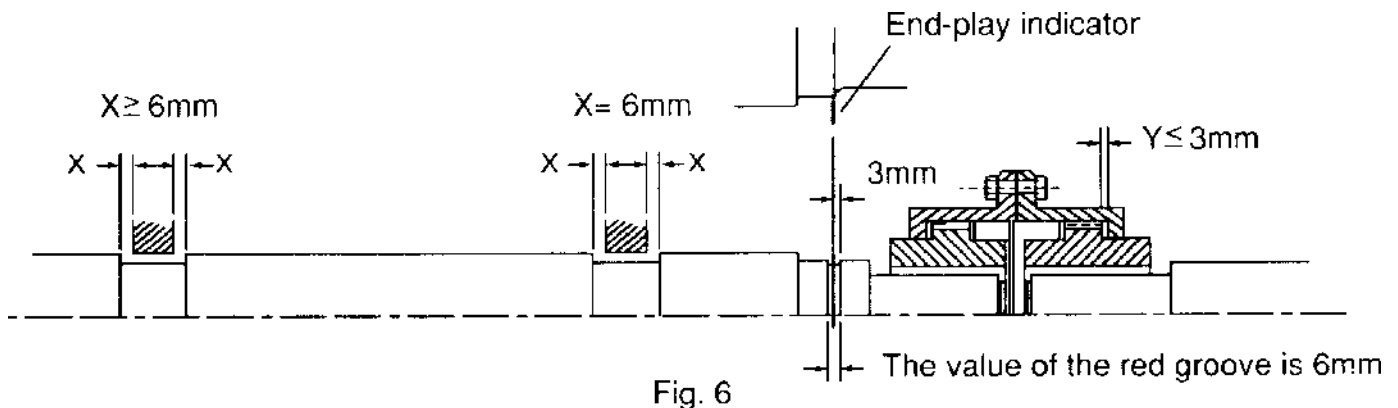

Fig. 6
- Unless otherwise specified, the designed end-play value X of the groove for TWMC motors in general is within 6mm (.236 in.) as illustrated in Fig. 6. In essence, the endplay indicator is adjusted to point at the center of the groove or the drive-end shaft shoulder; thus X equals to  $6 \pm 1$  mm or so, and the endplay value (Y) of the couplings should equal or be smaller than 3mm (.118 in.).